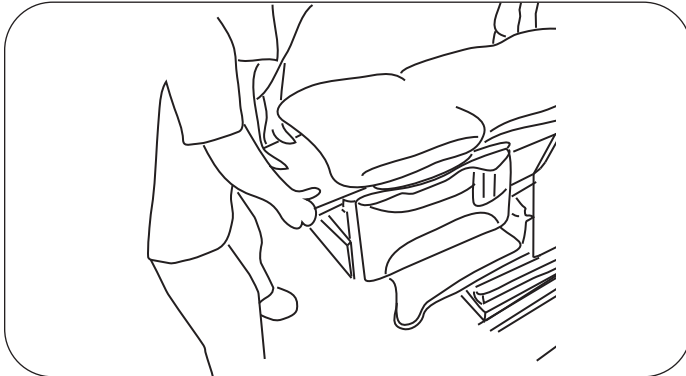

Figure 18. Front Lift Points
19. Position personnel at the front and rear of the table. Front lifting points are the left and right sides of the leg support (Figure 18).